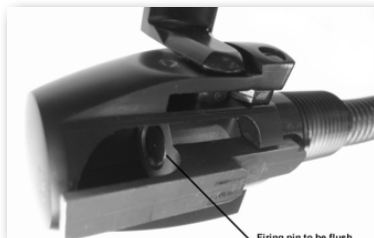

Fig. 8
2. While firmly holding the cocking piece on its engaging shoulder (*refer to Fig. 6*), rotate the firing pin clockwise until one of the firing pin grooves is directly under the retaining ball hole, with the end of the firing pin flush with the rear surface of the cocking piece (*refer to Fig. 8*).
3. Examine the bolt sleeve assembly to assure that the rear end of the firing pin is flush with the rear end of the cocking piece (*refer to Fig. 8*).